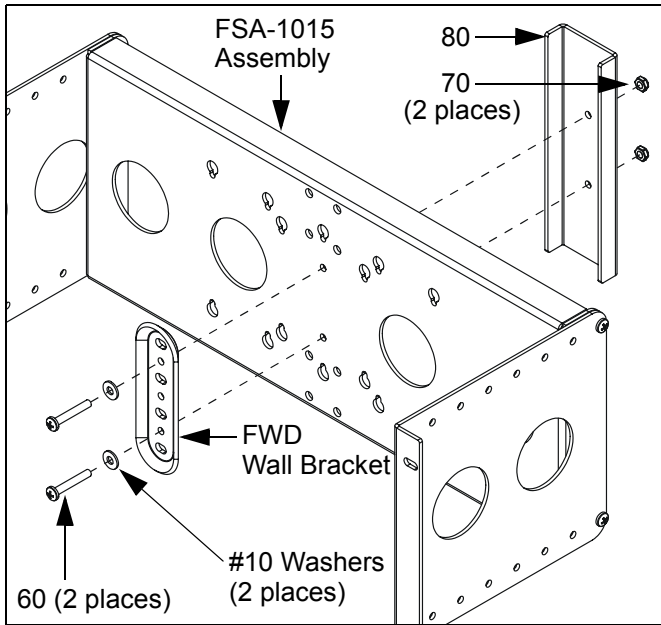

Figure 7: Install FWD Wall Bracket
2. Using Phillips screwdriver and 7/16" wrench, install two screws (60) through #10 washers and wall bracket (supplied with FWD mount), FSA-1015 assembly, and bracket (80), into nuts (70)(See Figure 7). Tighten screws (60).